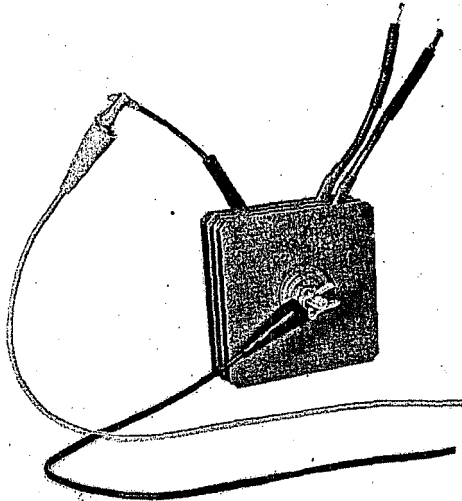

Figure 28
3. Connect small red test lead to positive lead on rectifiers. Figure 28.
4. Connect small black test lead to ground stud or lead on rectifier. Figure 28.